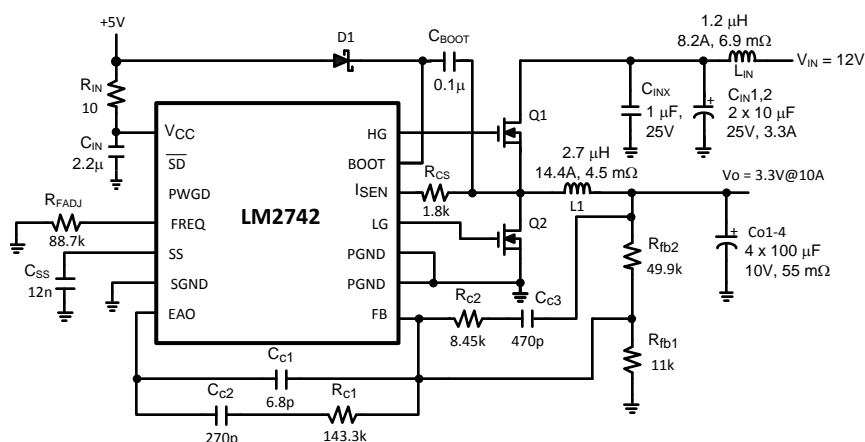

Figure 31. 5V-16V to 3.3V, 10A, 300kHz
**Table 2. Bill of Materials for Circuit of Figure 31